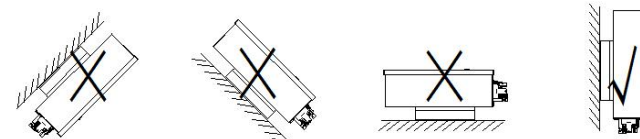

Figure 2 Installation position
- (1) The environment temperature is between -25℃~60℃.
- (2) The installation surface should be perpendicular to the horizontal line. Refer to Figure 2.